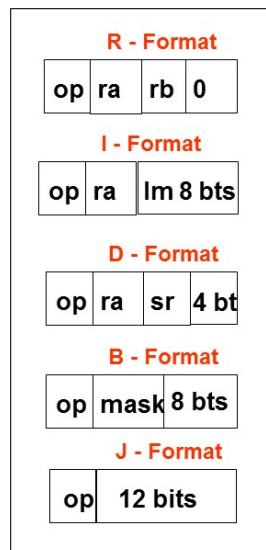

Figure 4: UMD-RISC 16 Instruction Modes
- **Instruction Memory:** Read-only register containing 32, 16-bit words indexed by the address output from the program counter. Create this as a simple VHDL entity and initialize with your desired instruction word values. Since we are only accessing up to 20 instruction words for now, only the least significant five bits of the program counter are needed for instruction memory addressing. Figure 4 shows the format of these instructions. You must correctly populate each field depending on the type of instruction you are executing and the desired output.